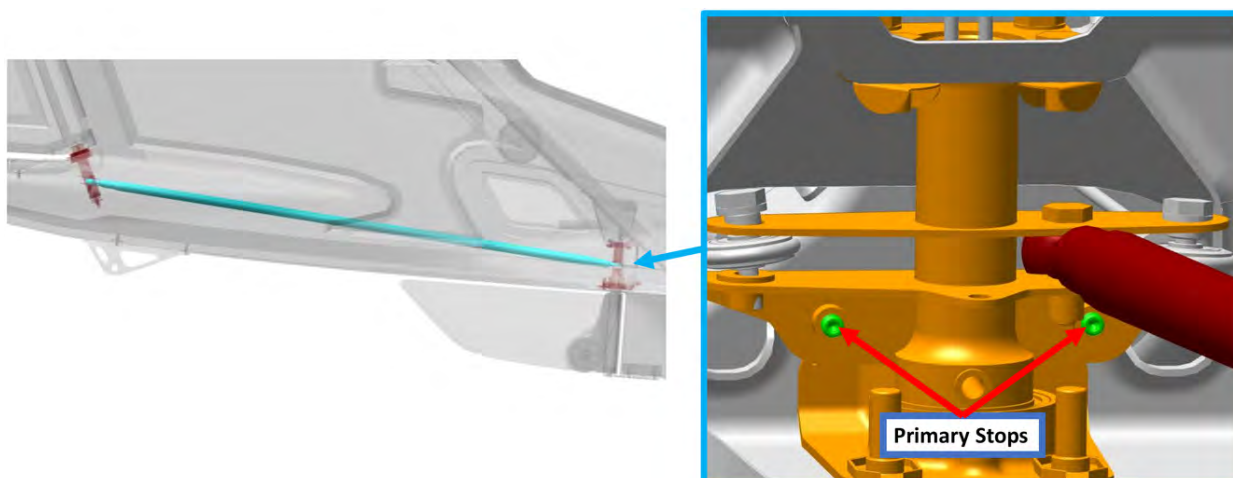

FIGURE 10-64
23. Adjust primary stops to ensure rudder maximum travel limits are set as specified. See Figure 10-64.